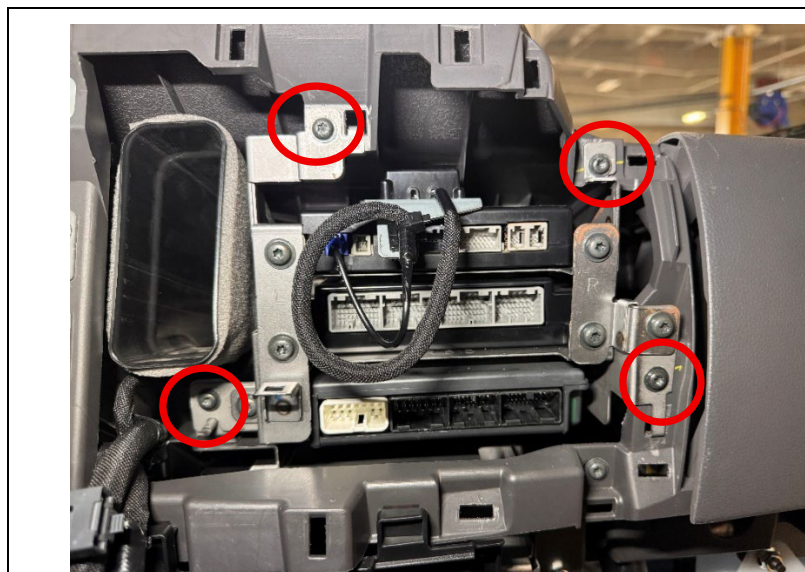

Figure 40
34. Remove the four (4) T25 screws holding the unit assembly and remove the module stack. (See Figure 40.)